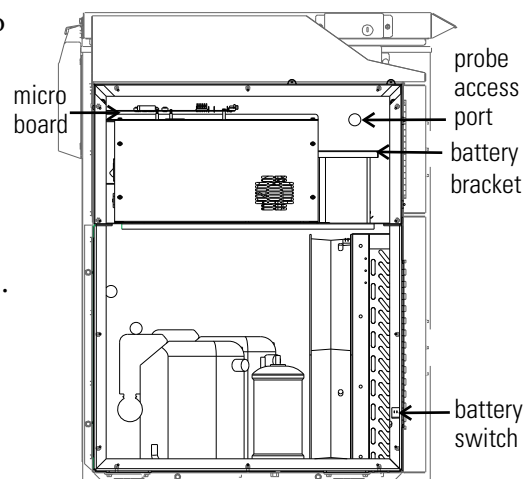

Figure 5-1. Battery and Switch location
3. Turn off the battery switch (O). See Figures 5-1 and 5-2.
2. Locate the battery power switch (Figure 5-1). Turn the battery power switch to the Off position (O).
4. Remove the three nuts securing the battery bracket. See Figure 5-1.
All Models except 3 cu ft (Figure 5-1):